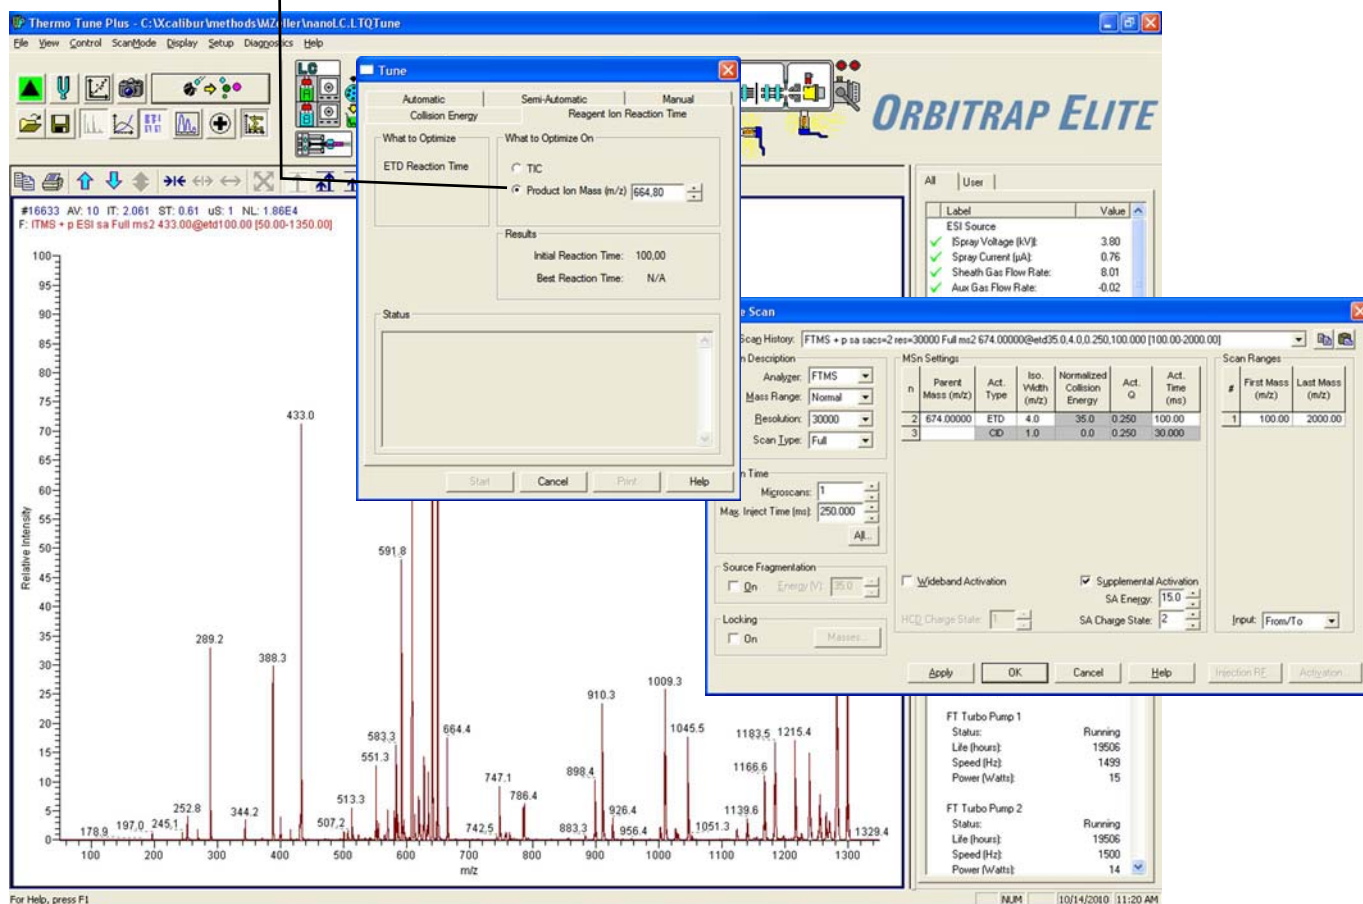

Figure 7-31. Tune window showing Product Ion Mass selected for Reagent Ion Reaction Time Optimization
- i. Click **Product Ion Mass** in the What To Optimize On section of the Tune dialog box. See Figure 7-31. The spin box adjacent to Product Ion Mass becomes active.